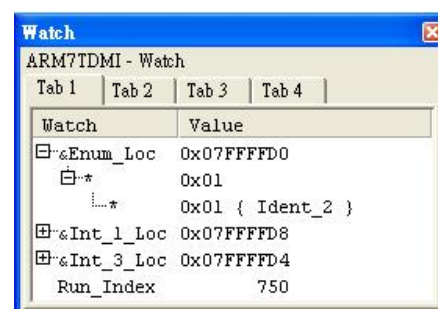

Figure 17. Watch processor view.
9. The variables you have specified are now displayed in the **Watch processor view** (similar to that shown in Figure 17), and if you expand the lines you can see both the addresses and the contents of the variables.